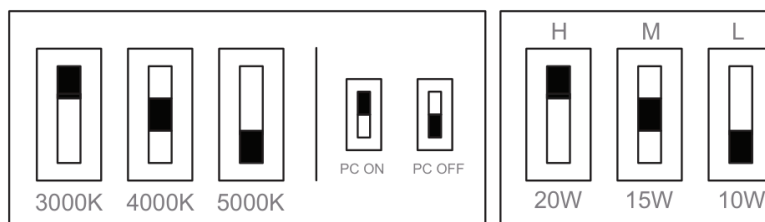

Figure 2 – Single Cylinder
2. Select desired wattage or CCT by the DIP switches. See figure 2.